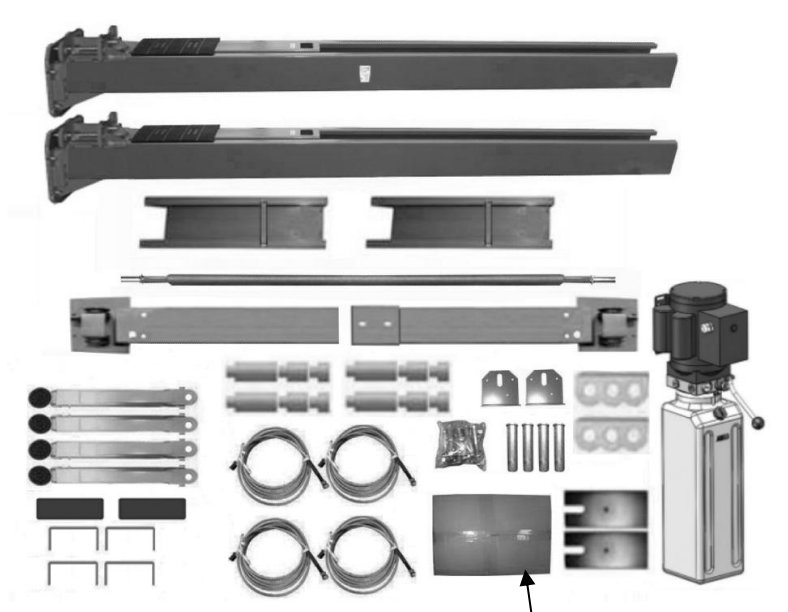

Fig. 9
4. Move aside the parts and check the parts according to the shipment parts list (**See Fig. 9, 10**).